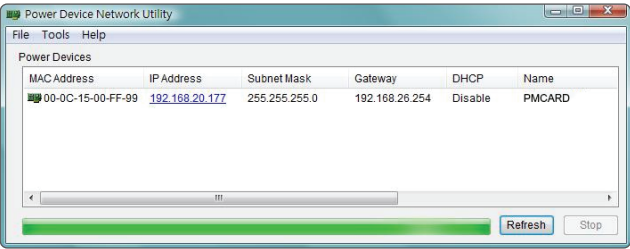

Figure 1. The main window of the "Power Device Network Utility" program.
- 3. The main dialog of the Power Device Network Utility program is shown in Figure 1. The configuration tool will display all Power Management devices present on the same network subnet. The "Refresh" button is used to search the local network subnet again.